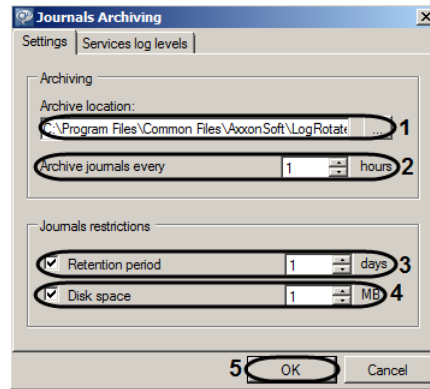

Fig. 8.2—2 Journal archive parameters
2. In the **Archive journals every...hours** field (Fig. 8.2—2, 1), enter the event journal archiving interval in hours.
- 3.1. In the **Retention period** field (see Fig. 8.2—2, 3), indicate the maximum retention time in days of a journal in the archive, after which the journal is deleted.